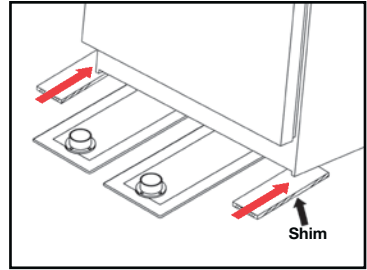

Figure 4
- If the gap between the floor and the bottom of the load is less than  $\frac{1}{2}$ " , check whether the load can be safely tilted back  $\frac{1}{2}$ ". If so, tilt back and place a  $\frac{1}{2}$ " shim under the front corners to create the  $\frac{1}{2}$ " gap. (See figure 4.)